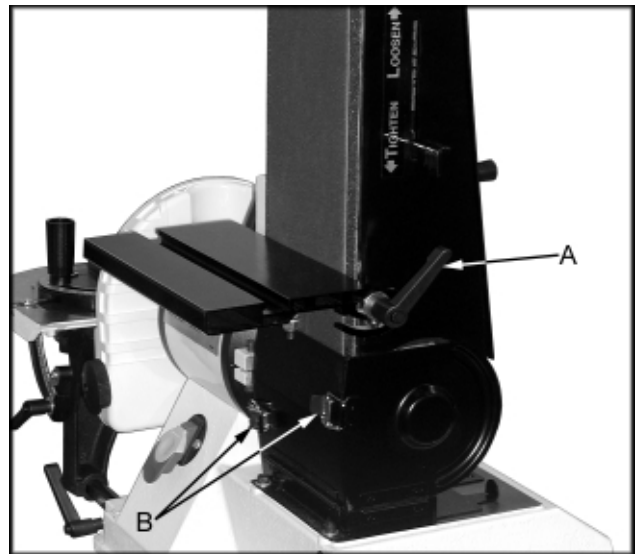

Fig. 8
2. Remove the handle (A, Fig. 8).
3. Release two latches (B, Fig. 8) and open the doors.